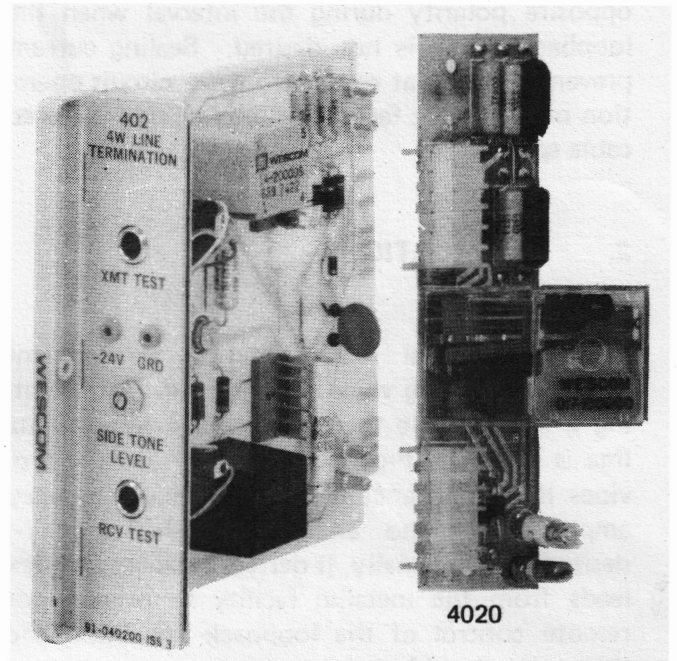

Figure 1. 402 4-Wire Line Termination Module and 4020 Loopback Subassembly
1.01 This Practice provides circuit description, installation procedures, alignment, and basic testing information for the Wescom® 402 Four-Wire Line Termination Module and the 4020 Loopback Subassembly (Figure 1). It is being reprinted to include Addendum A.